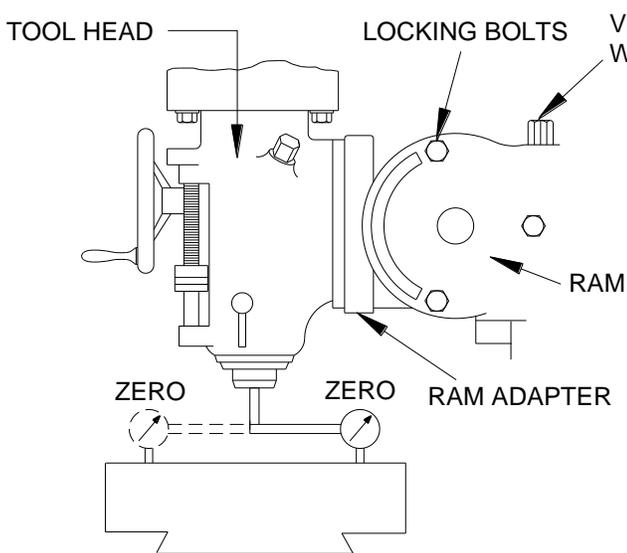

figure 1
1. Loosen the (3) locking bolts in (fig. 1),